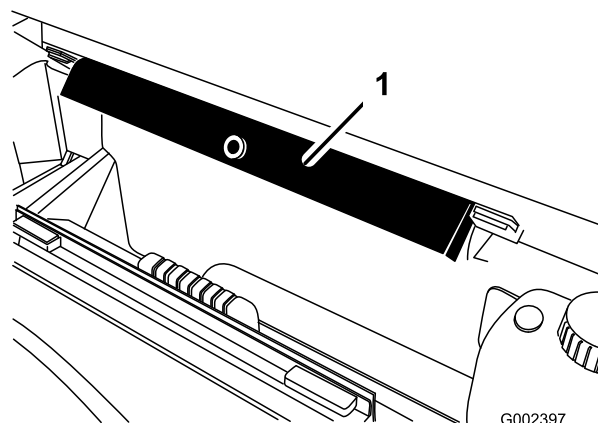

Figure 2
- B. Remove the sprayer tank support from the storage brackets on back of the ROPS panel (Figure 2).
2. Insert the sprayer tank support into the brackets on the back of the ROPS panel (Figure 2).